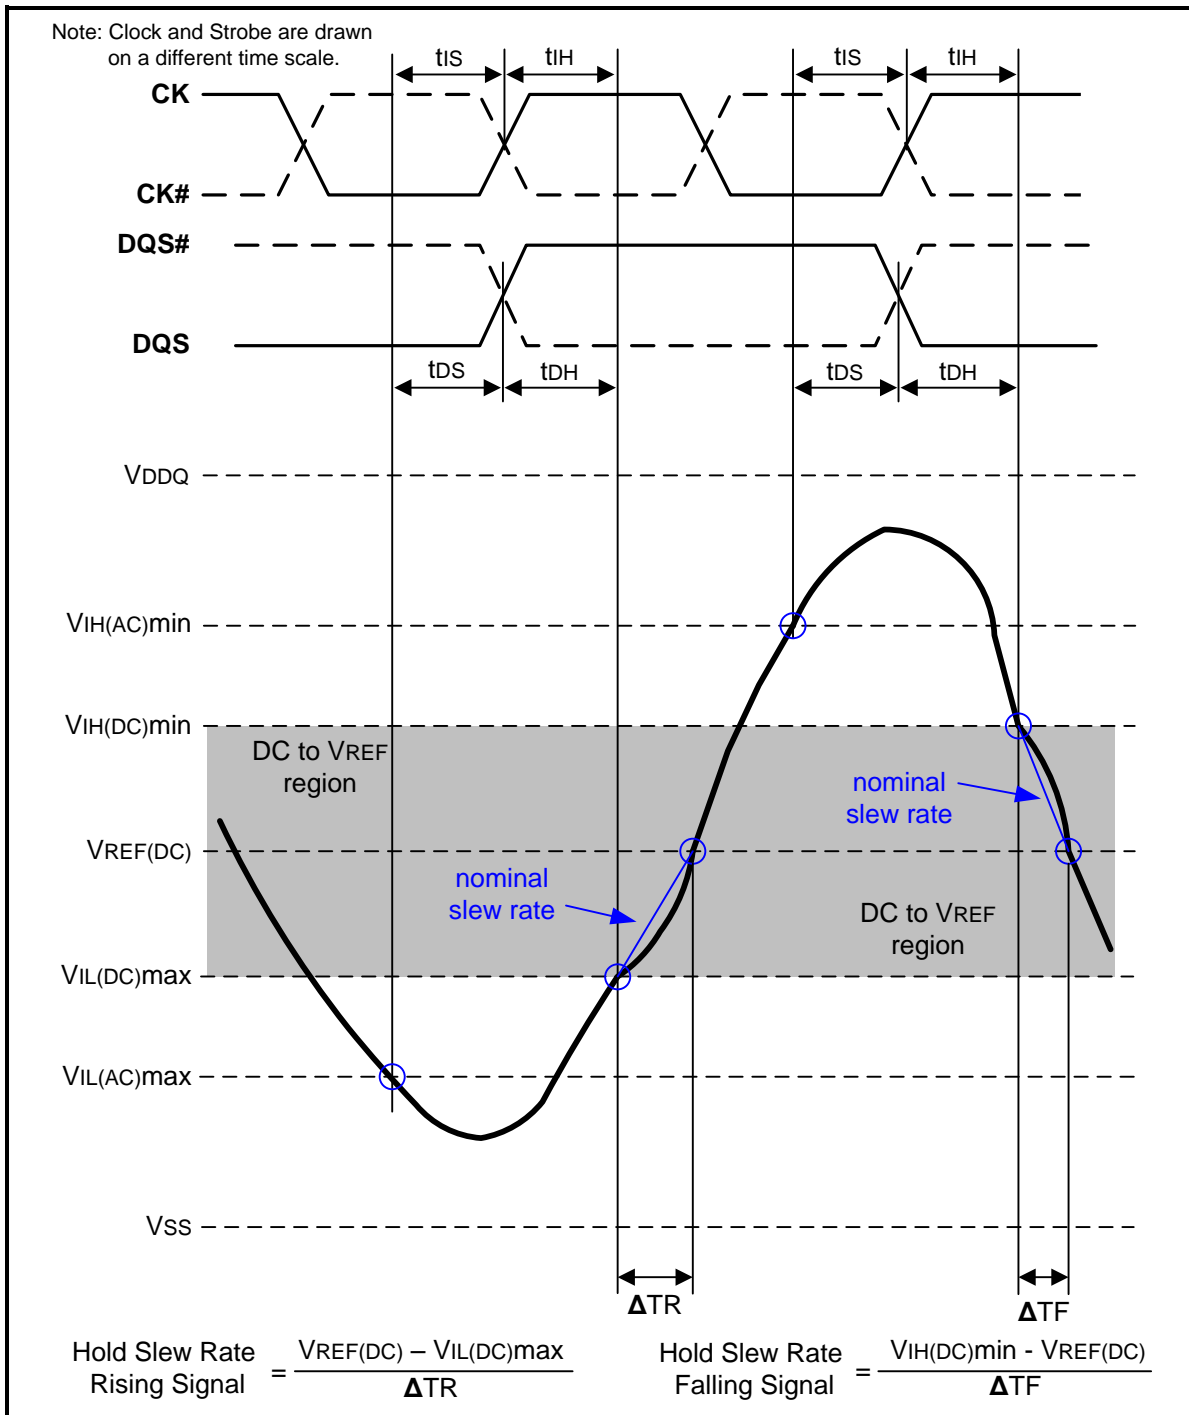
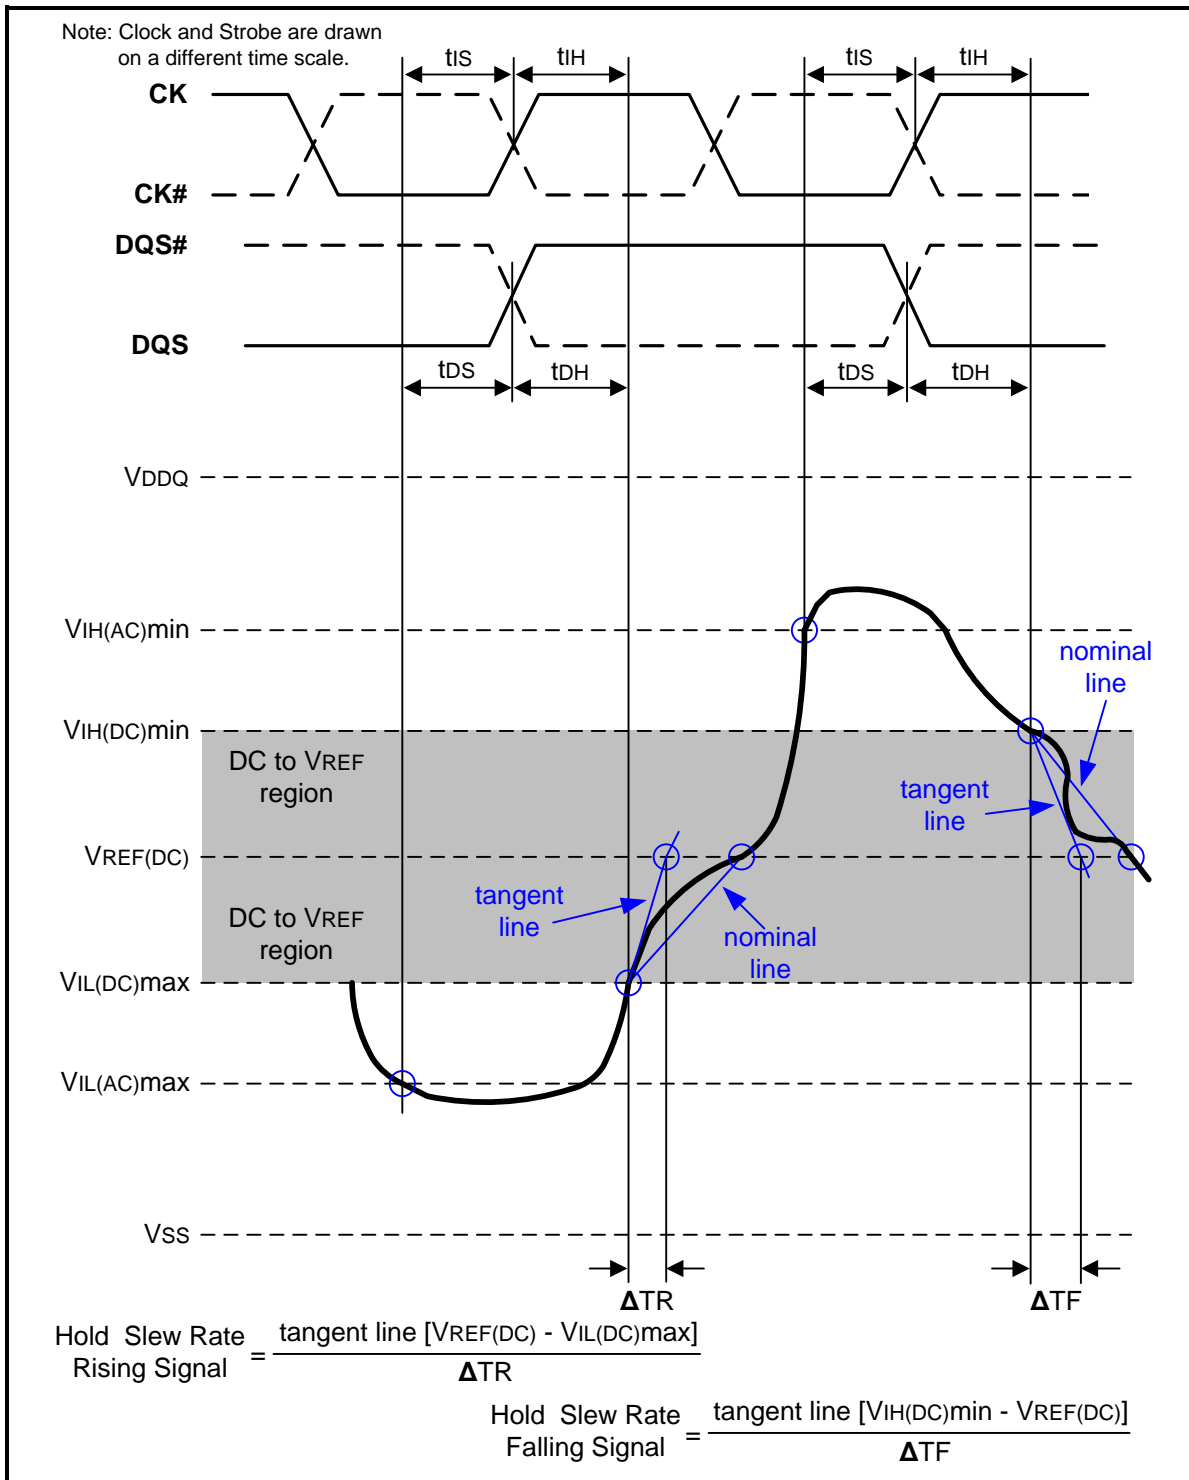

Figure 108 – Illustration of nominal slew rate for hold time tDH (for DQ with respect to strobe) and tIH (for ADD/CMD with respect to clock)
Figure 110 – Illustration of tangent line for hold time tDH (for DQ with respect to strobe) and tIH (for ADD/CMD with respect to clock)
Hold ( $t_{IH}$ ) nominal slew rate for a rising signal is defined as the slew rate between the last crossing of  $V_{IL(DC)max}$  and the first crossing of  $V_{REF(DC)}$ . Hold ( $t_{IH}$ ) nominal slew rate for a falling signal is defined as the slew rate between the last crossing of  $V_{IH(DC)min}$  and the first crossing of  $V_{REF(DC)}$ . If the actual signal is always later than the nominal slew rate line between shaded 'DC to VREF(DC) region', use nominal slew rate for derating value (see Figure 108). If the actual signal is earlier than the nominal slew rate line anywhere between shaded 'DC to VREF(DC) region', the slew rate of a tangent line to the actual signal from the DC level to  $V_{REF(DC)}$  level is used for derating value (see Figure 110).
Hold (tDH) nominal slew rate for a rising signal is defined as the slew rate between the last crossing of VIL(DC)max and the first crossing of VREF(DC). Hold (tDH) nominal slew rate for a falling signal is defined as the slew rate between the last crossing of VIH(DC)min and the first crossing of VREF(DC) (see Figure 108). If the actual signal is always later than the nominal slew rate line between shaded 'DC level to VREF(DC) region', use nominal slew rate for derating value. If the actual signal is earlier than the nominal slew rate line anywhere between shaded 'DC to VREF(DC) region', the slew rate of a tangent line to the actual signal from the DC level to VREF(DC) level is used for derating value (see Figure 110).